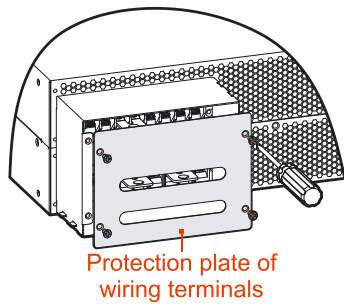

Figure3-18 Fasten wiring plate
- Step 3 Fasten the wiring cover onto the two protection covers, as shown in Figure3-18.